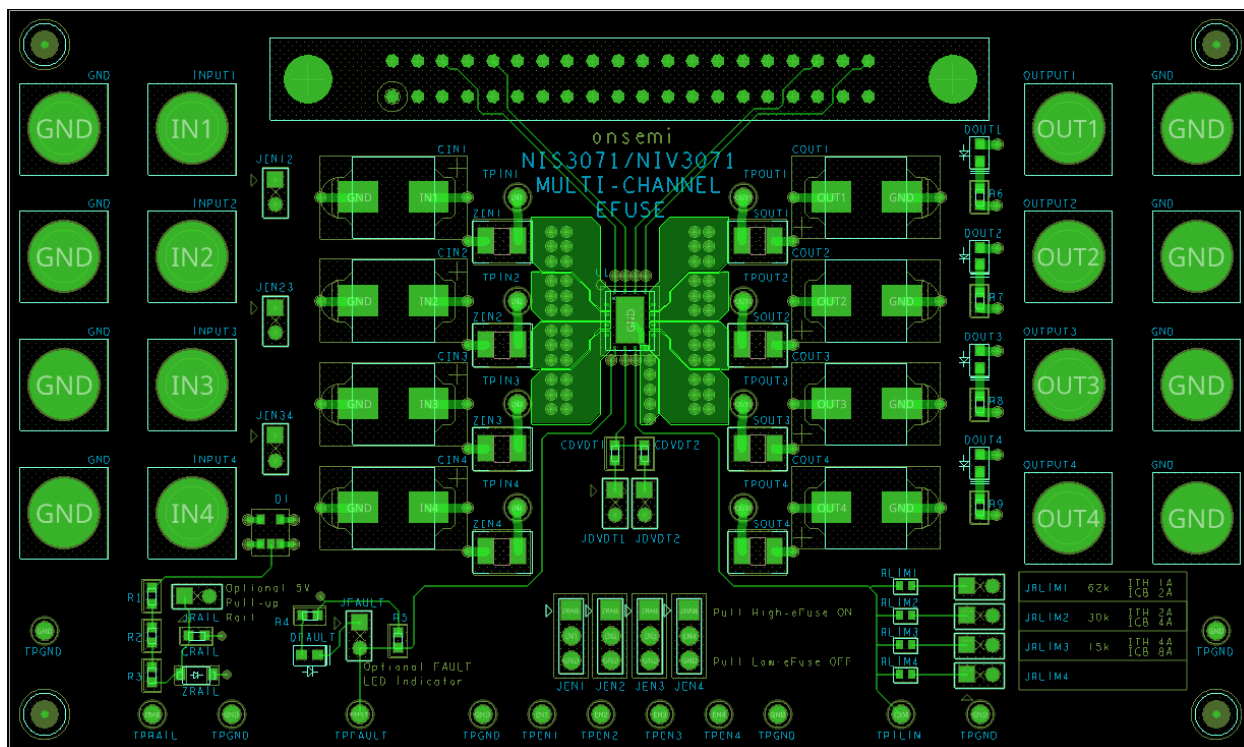

Figure 5. Evaluation Board Layout Image (6 layers)
- I_{TH} is a threshold current that, when reached or exceeded for longer than 1.5ms, will turn off the eFuse. The value of I_{TH} is set by R_{Lim} and that relationship can be seen in Figure 5 of the datasheet.